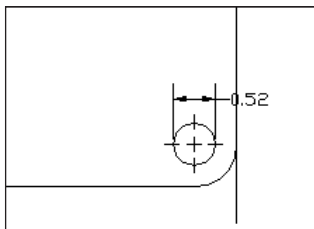

Figure 15-16: A narrow dimension using the Text option
- ♦ **Text:** If there is not enough room for the text and the arrows between the extension lines, the text goes outside and the arrows go between them. Figure 15-16 shows a dimension using this option.